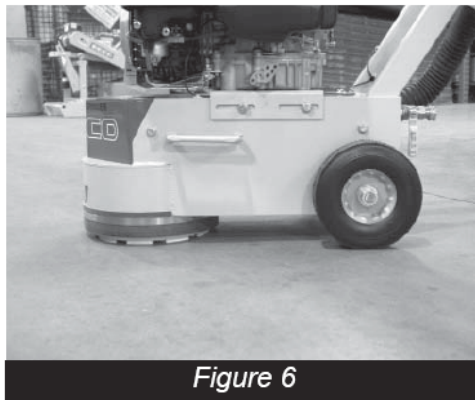

Figure 6
- Keep the grinding disc flat - do not attempt to grind against vertical surfaces. Be sure the machine is in the correct operating position. (See *Figure 6* below..)